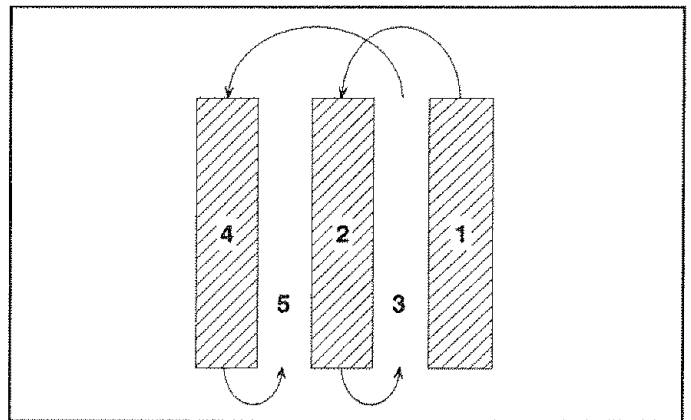

FIG. 16
- For easier handling of your tiller, leave about 8 inches of untilled soil between the first and second tilling passes. The third pass will be between the first and second (See Fig. 16).